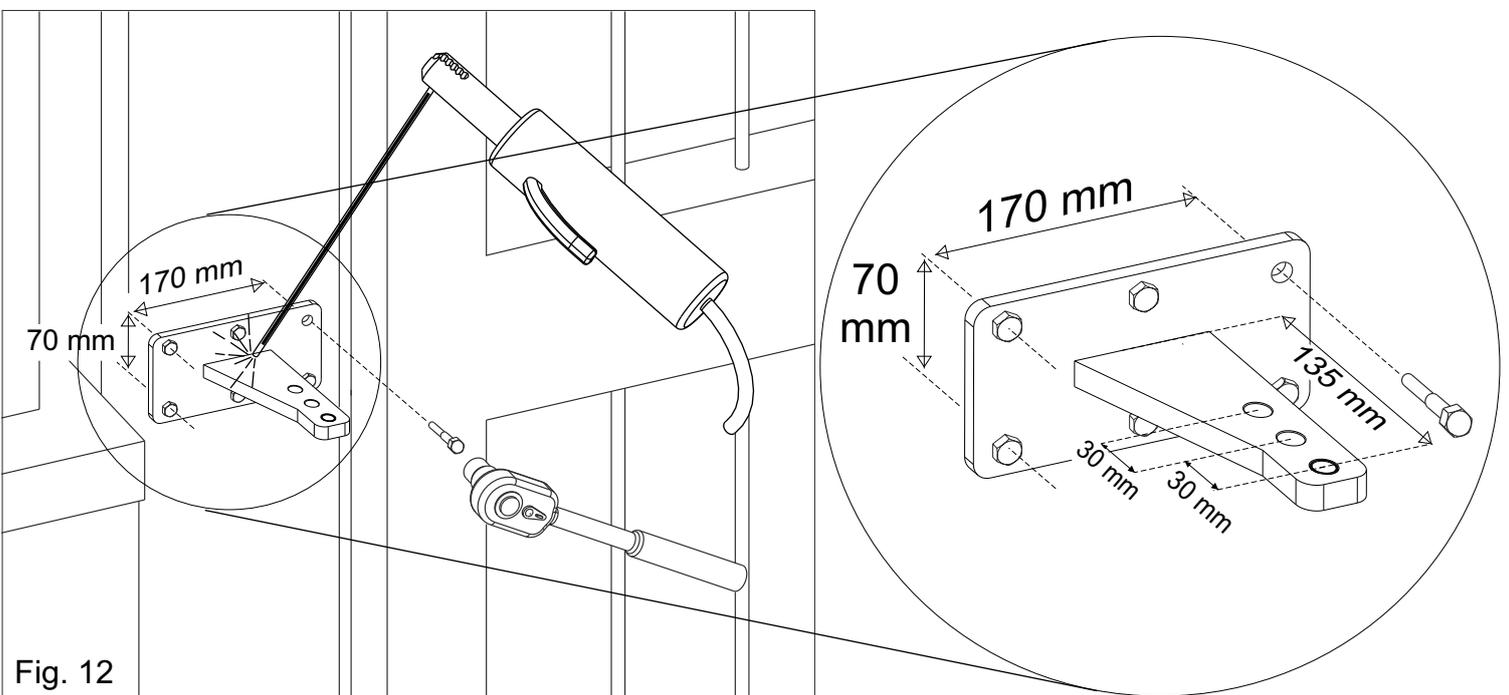
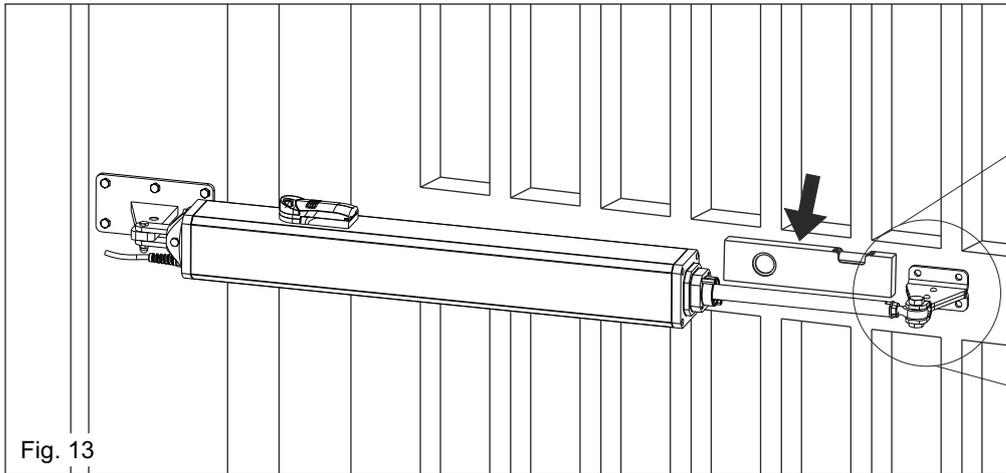

Fig. 12
Fig. 13
The rear bracket must first be cut respecting the quote "a" on pag. 19 and then welded as in fig. 12.
The support must be positioned so that the operator is perfectly levelled (Fig. 12, Fig. 13).
4. Set the operator perfectly levelled and mark the position of the front bracket (Fig. 13).